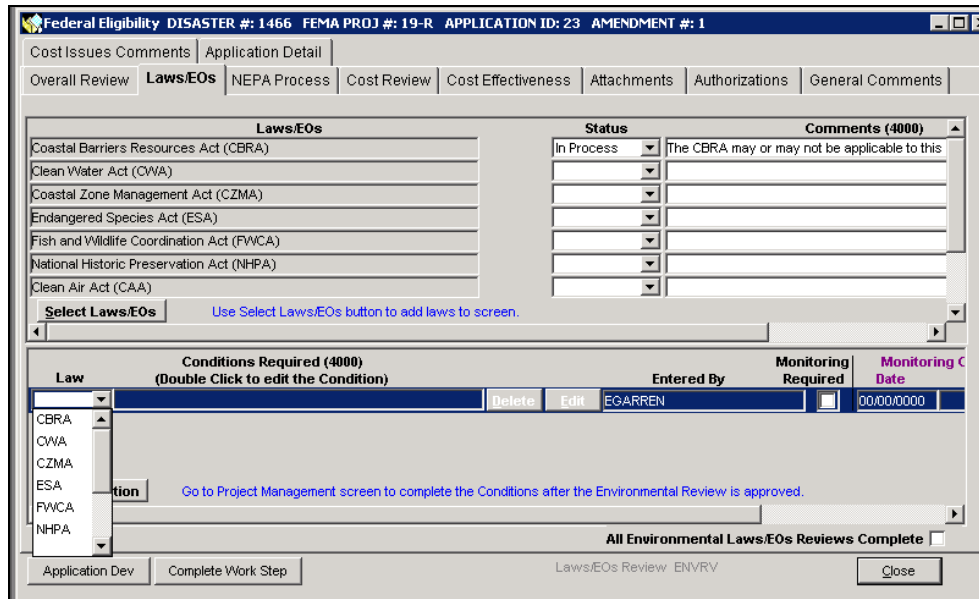

Figure 7-34: Environmental Laws Selection List
- b. In the Law column, click the triangle. A drop-down list of Environmental Laws is displayed (Figure 7-34).